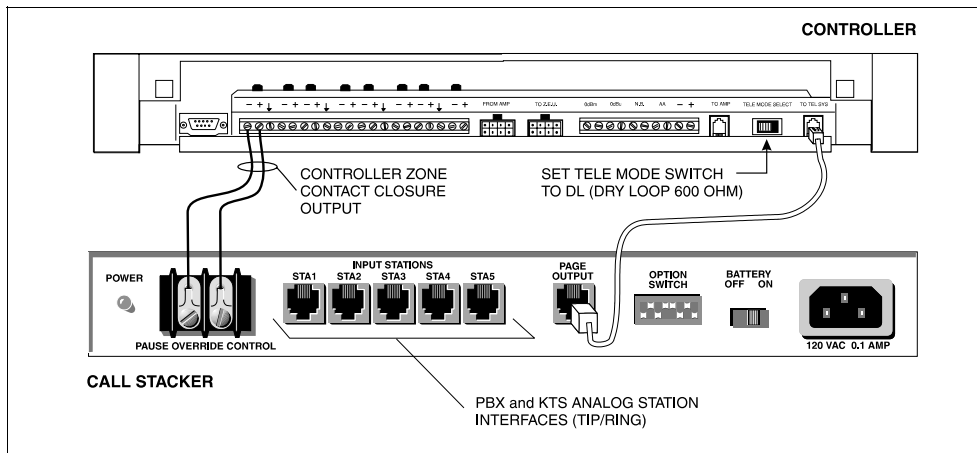

Figure 4. Connection to Paging System
- Connect the Call Stacker to the paging system (see Figure 4):
- Connect one or more of the Call Stacker's Input Station channels to PBX/KTS analog station inputs on the telephone system through FCC/DOC approved modular jacks. Connect the Call Stacker's Page Output channel to the paging system as shown in Figures 4 and 5 through an FCC/DOC approved modular jack. The control contact signal is used to secure and release the paging system controller.